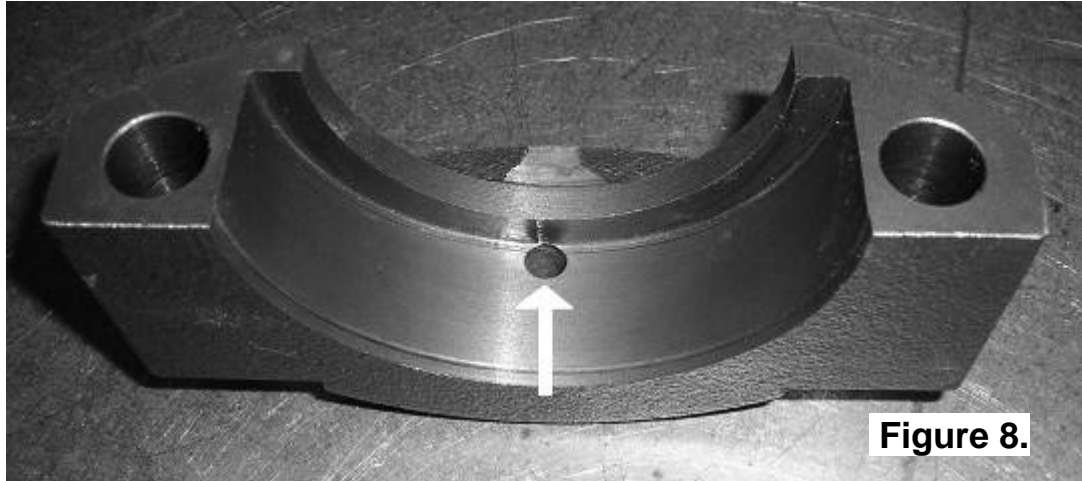

Figure 8.
- ☐ Using a pedestal drill, drill a 6mm [1/4"] hole through the bearing cap. (Fig.8.)